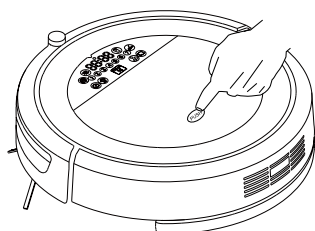

Fig.1
01. Press "PUSH" on the panel to pop out the dust cover (Fig. 1).